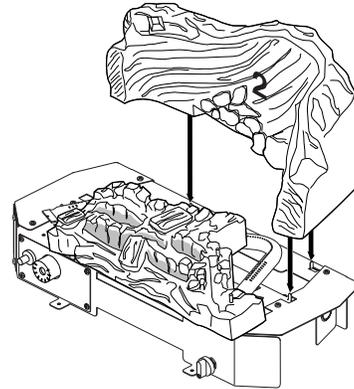

Figure 20 - Installing Log #2 (Model CGX3930NT Shown)
2. Place log #2 behind the back burner and onto the three tabs as shown in Figure 20.